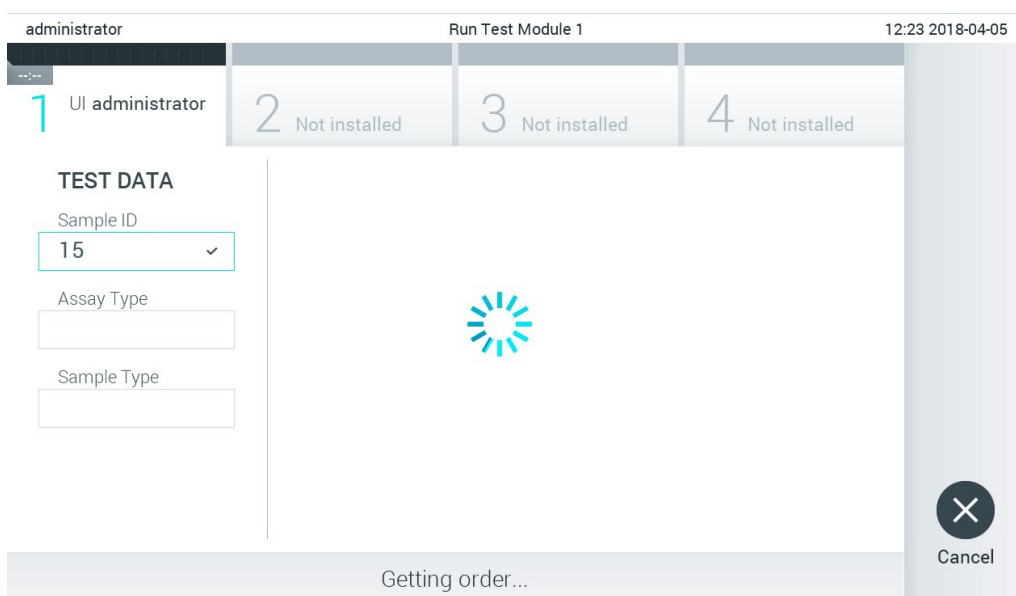

Figure 73. Display during test order retrieval.
- The sample ID will be sent to the host and while the QIAstat-Dx Analyzer 1.0 waits for a test order, the message "Getting order..." is displayed (Figure 73).